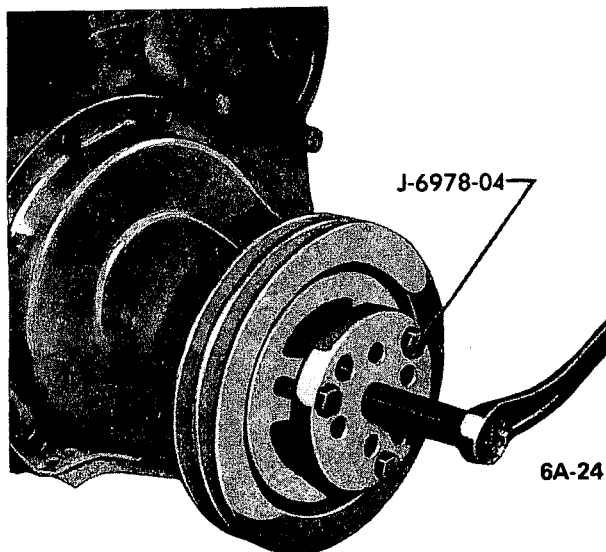

Figure 6A-20 Removing Torsional Damper
3. Install Tool J-6978 to torsional damper and turn puller screw to remove damper. See Figure 6A-20.